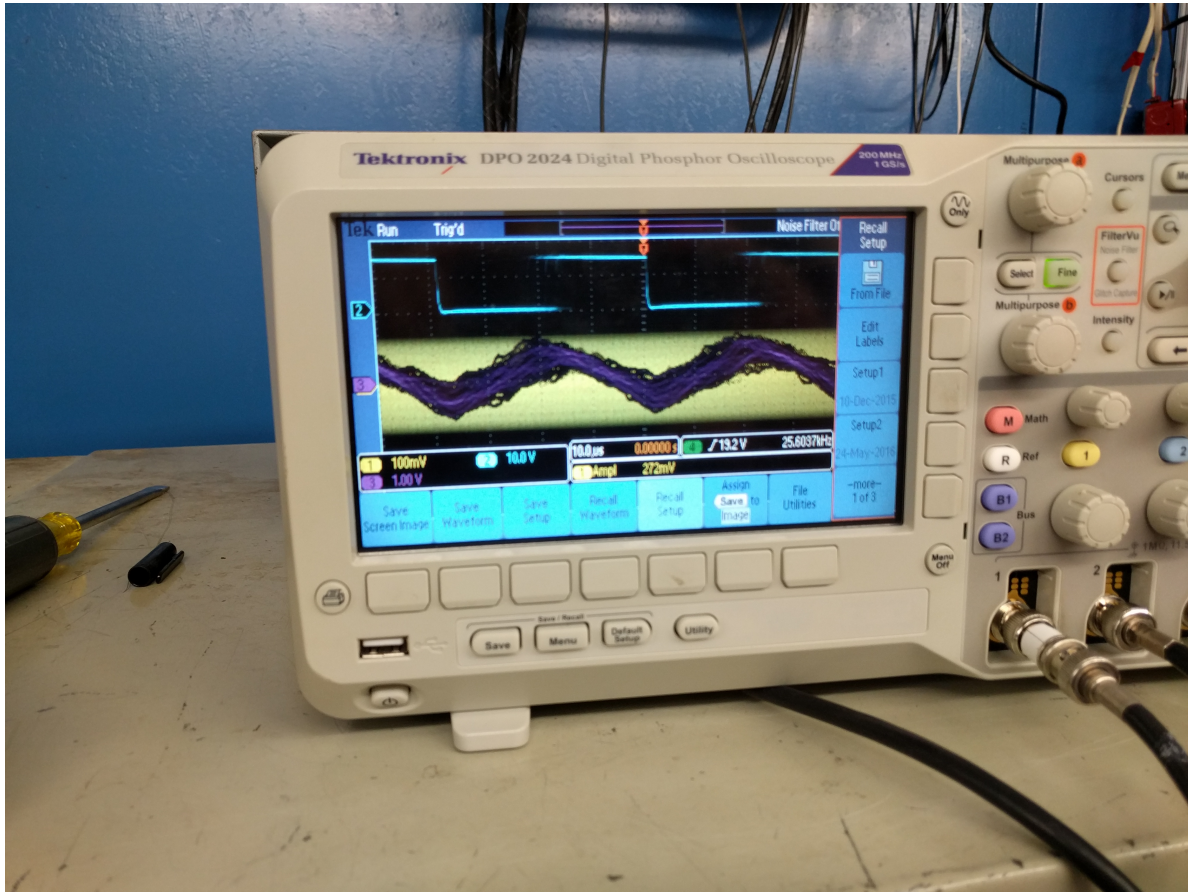

Figure 19: Scope Lock Status for Resonators
Use the Tektronics 2445A dedicated Linac scope and select the recall 3 program option. The scope should be set up as follows figure 18 A and B. The time base should be set to 20  $\mu$ sec. CH.1 is connected to the can mon. (100mV/div./50 $\Omega$ ) CH.2 is connected to the P.D.P. mon. (500mV/div./1M) CH.3 is connected to the phase error (0.1V/div.) CH.4 is connected to the P.W. clockout (0.1V/div.) trigger the scope on CH.4. For a normally operating resonator the trace illustrated in figure 19 should be observed. After setting up the scope check the following:
- If the P.D.P. monitor signal shows no resemblance to a square wave (figure 19) (even a 'smeared' out one), i.e. the trace is a line at 0V or near 1V, the P.D.P. is not switching. See 1.
- If the P.D.P. is switching, but smeared out, and the phase error signal (figure 19) is smeared out, or is jumping over most of the screen, the resonator is totally out of phase lock -i.e. the resonator frequency does not match the master oscillator frequency, see c.
- If the phase error signal and the P.D.P. monitor signal (figure 19) are recognizable as a sawtooth and square wave respectively, but are asymmetric and jittering, the fast tuner system (P.D.P.-VCX) is not operating about the center of the range. If this is the case the slow tuner driver center frequency pot (figure 18 C) has to be adjusted. See (d) below.